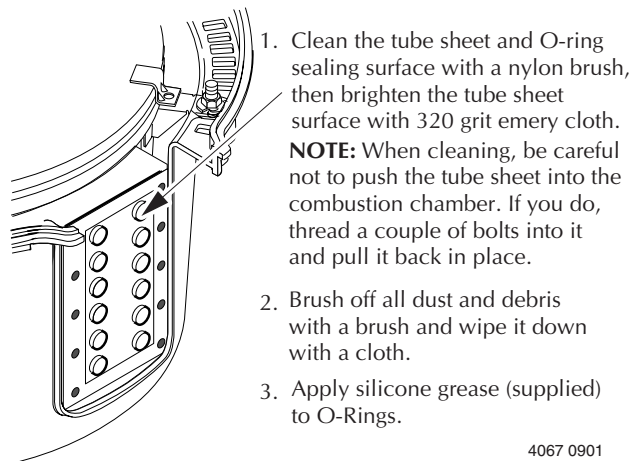

Figure 4: Clean the Tube Sheet and O-Ring sealing surfaces thoroughly as described above.
26. Clean the tubesheet and O-Ring sealing surfaces (see Figure 4).